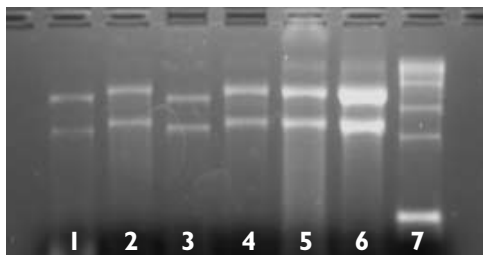

Figure 1:
16. RNA integrity can be analyzed visually using denaturing or non-denaturing 1.2 % agarose gel electrophoresis (See Figure 1).